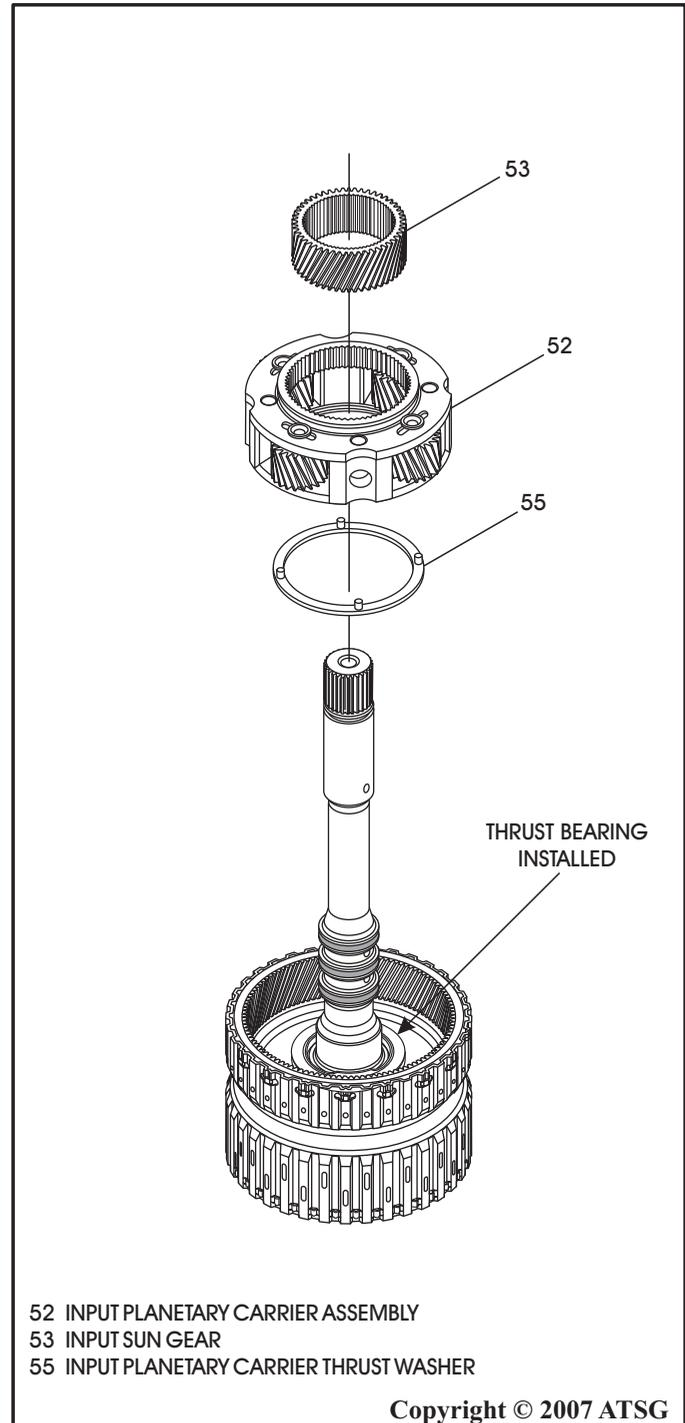

Figure 161
17. Install the input carrier thrust washer onto back side of carrier, as shown in Figure 161, and retain with a small amount of Trans-Jel®.
18. Install the input planetary carrier and thrust washer assembly into the ring gear, as shown in Figure 161, with a rotating motion.